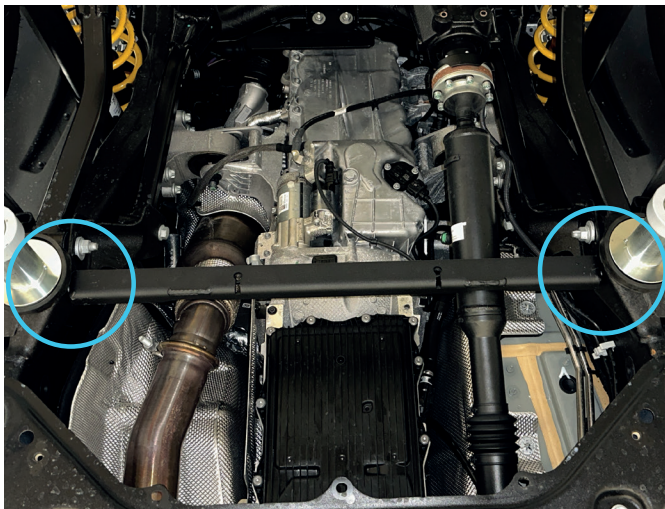

Fig. 3
3. Fix beam (item 2) using bolts M10x140, washers 10, spacers and nuts M10 (item A, E, D, F, G) as shown in fig. 3, 4. Select spacers (D or G) for correct installation.